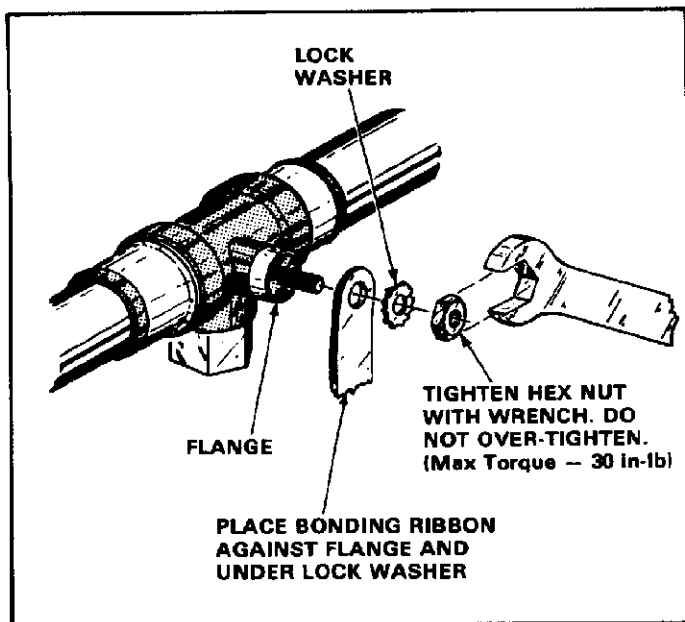

Fig. 4—Electrical Bonding Application
- Remove hex nut and lock washer from grounding post. See Figure 4.